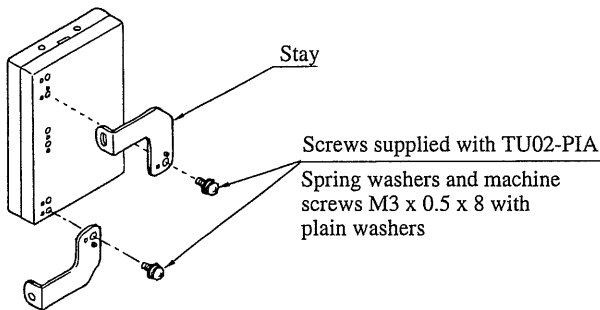

Fig. 1-7
- ① Install the stays as shown in Fig. 1-7.